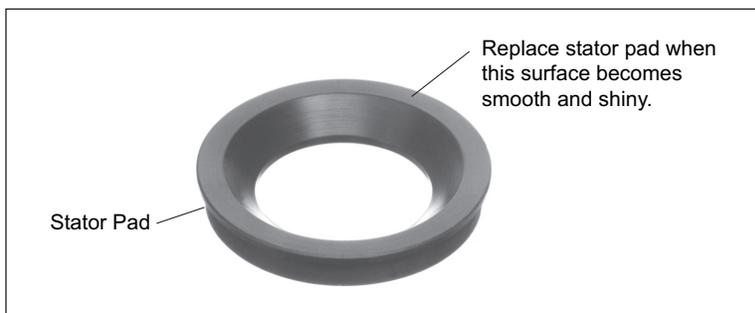

Figure 2. Ultracentrifuge Stator Pad
1. Inspect the ultracentrifuge stator pad (Figure 2) before use. A worn pad, which is smooth and shiny on the upper half of the inside surface, has lost its cushioning effect and will eventually cause rotor failure. Replace a worn stator pad (refer to publication AF-IM).